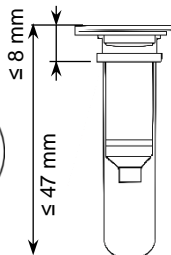
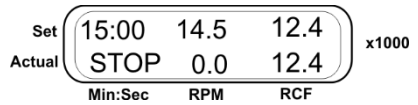

Figure 3.
Figure 6. Display of the stopped centrifuge
- Press the **Open** key (fig. 3/1) and open the outer lid lifting it upwards by hand.
- The height of the spin column must be 47 mm or less, and the portion above the rotor must be 8 mm or less, see figure 3 for explanation.
- 5.6. Place the rotor lid on the rotor pressing the lid holder down tightly. Close the outer lid (the clicking sound of the lock and readings STOP in the lower line of the display indicate that the lid is closed, see fig. 6).
- 5.10. Centrifugation is stopped automatically after the set time elapses (while braking display shows blinking indication STOP (fig. 6). A sound signal is emitted after full stop of the rotor (press the **Run Stop** key (fig.3/4) to stop the signal).